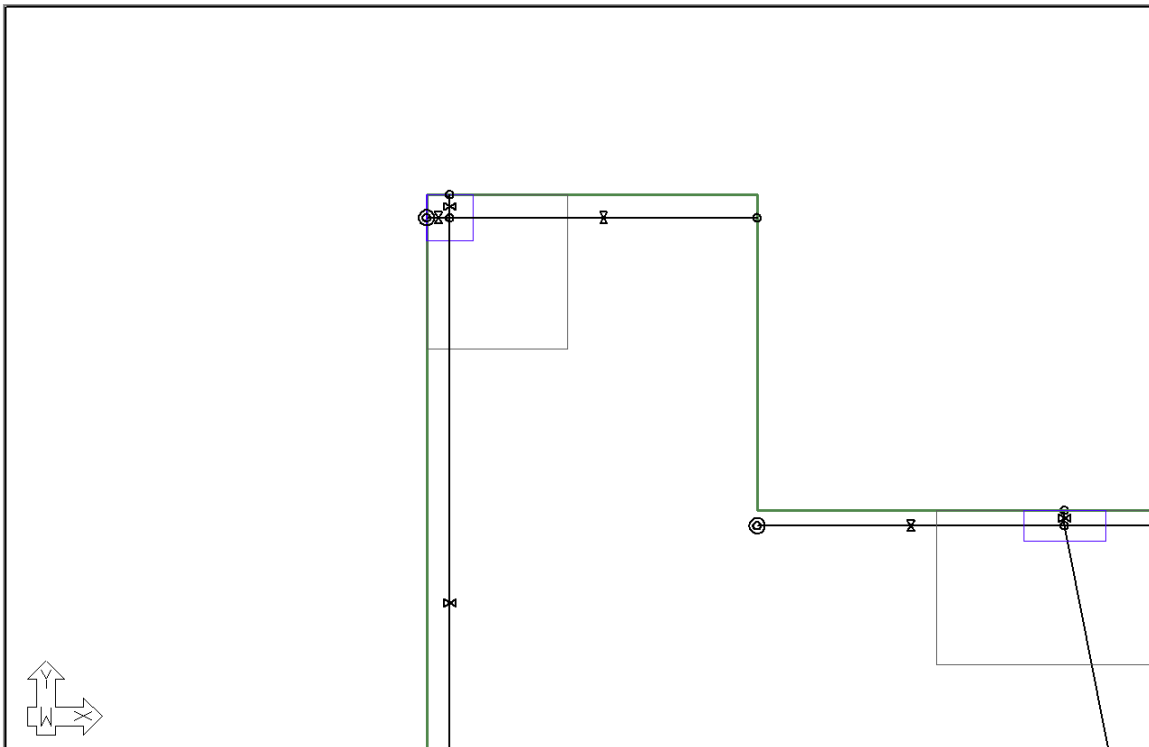

FIGURE 10-6
- The support lines in the upper left corner should look like those shown in **FIGURE 10-6**.